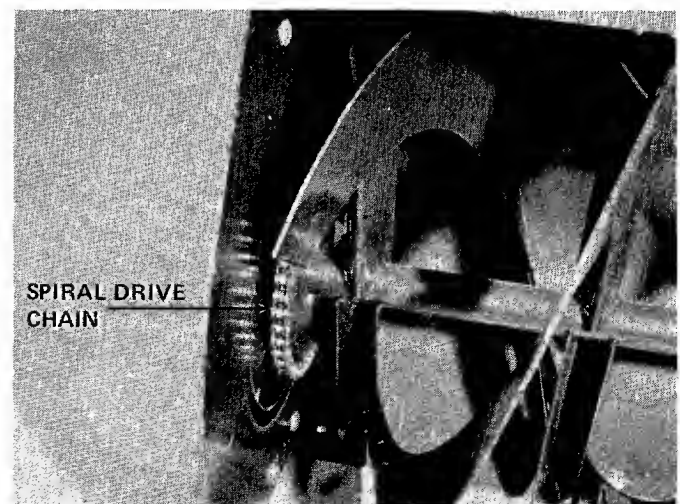

FIGURE 30
1. Spiral drive chain: Lubricate chain every 40 hours with No. 30 oil. It is important that oil reaches inside each roller. Wipe off excess oil from chain. See figure 30.